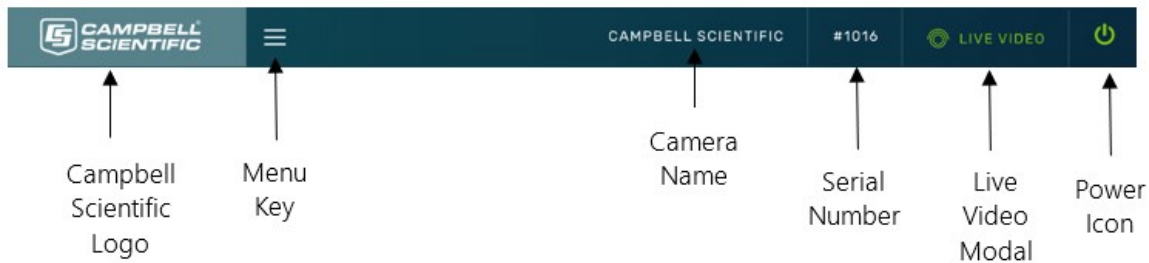

Figure 14-3. Top navigation bar – desktop view
- The top of every page includes a top navigation bar (Figure 14-3 [p. 39]), which includes the **Camera Name** set in General Settings (p. 76), the camera serial number, a link to the **Live Video** modal (see Live Video modal [p. 39]), and the green power icon.
The green power icon (see Figure 14-3 [p. 39]) on the top right of every page provides a safe power down sequence. If at all possible, the green power icon should be used any time the power needs to be removed from a camera that is actively collecting and storing photos or video. The camera will completely shut down for a period of 10 minutes and ensure the camera memory is not corrupted. Once selected, a notification will pop-up asking the user if they are sure they want to power down the camera; proceed accordingly.